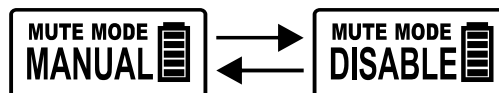

Fig. 23
(C) MUTE MODE Setting. Fig. 23:
- (1) Select MANUAL or DISABLE.
- (2) MANUAL: Use MUTE button to mute/unmute.
- (3) DISABLE: MUTE button is disabled. Mute setting is canceled.